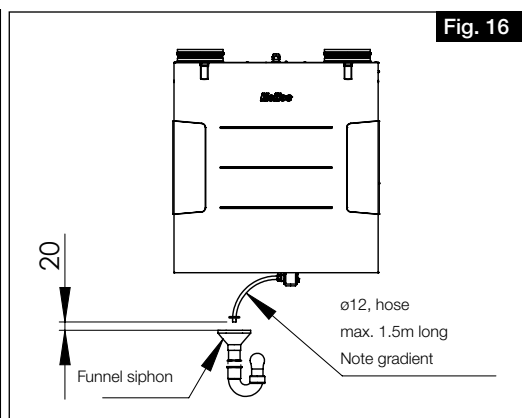

Fig. 16
5. Connect siphon casing and turn a 1/4 turn in the mounting part (see Fig. 16). Ensure that the float ball is loose in the casing!
- The condensate hose must end 20 mm above the open drain or possible water level (see Fig. 16).
- The condensate hose from the ball siphon must have a downward gradient, openly dripping into a funnel siphon and must not be discharged into a closed system (see Fig. 16).